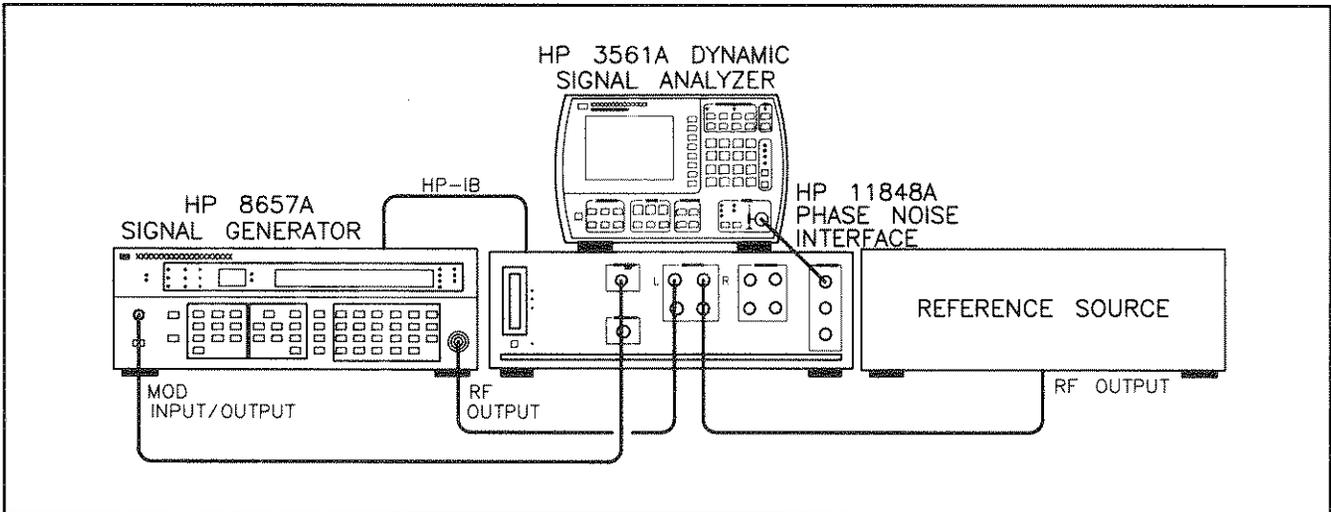

Figure 4-5. Setup Diagram for SSB Phase Noise Measurement
12. When the hardware connect diagram appears in the display, connect the HP 8657A and reference source to the HP 3048A as shown. (Note that the reference source is labeled USERS's DUT on the screen. Figure 4-5 also shows the cable connections for this measurement.)